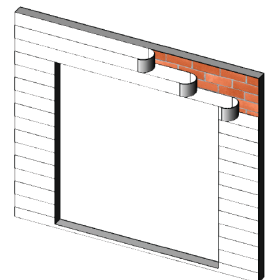

Figure 20:
4. Weather resistant building paper should be applied in a weatherboard fashion to complete the installation (Figure 20).